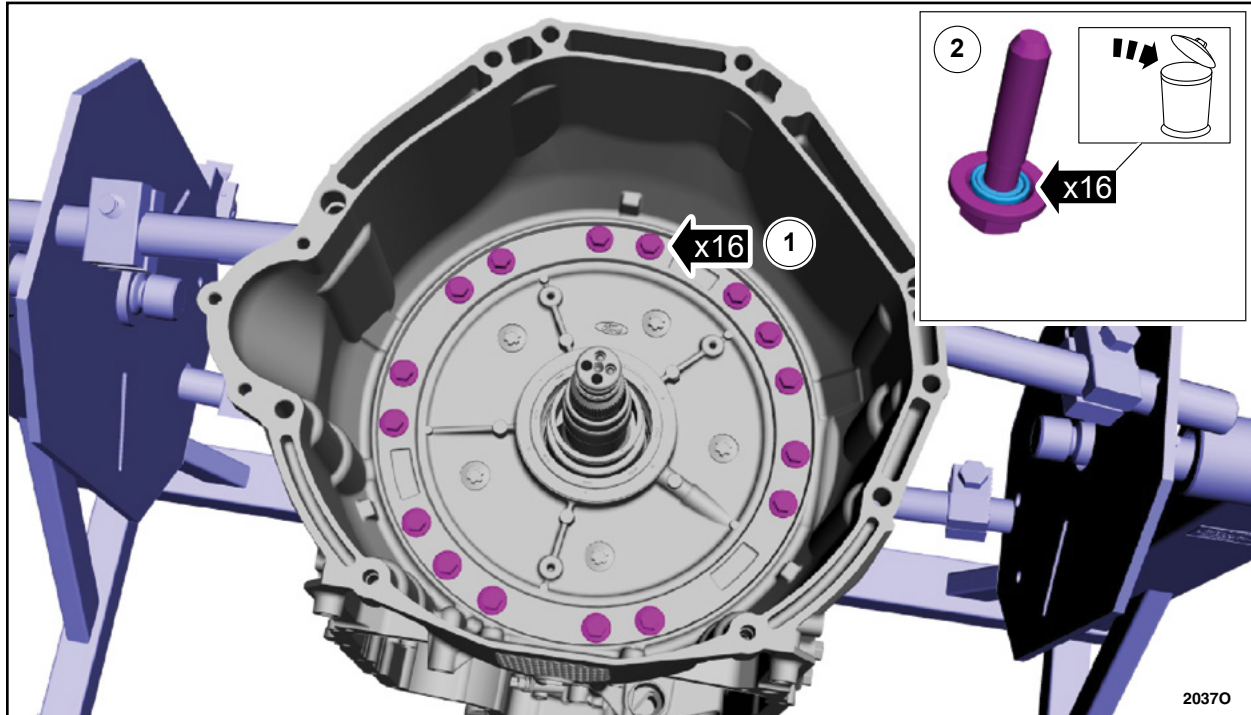

FIGURE 8
10. Remove the front support assembly bolts. See Figure 8.